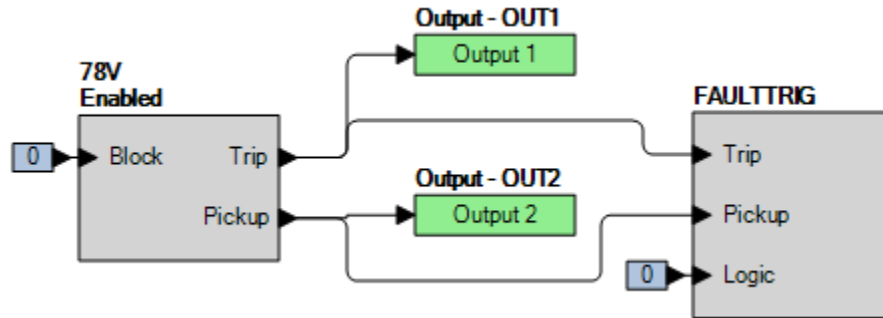

Figure 61-1. BESTlogic*Plus* Settings
Step 2: Use BESTCOMS*Plus* to configure the BESTlogic*Plus* programmable logic shown in Figure 61-1.
Step 4: Prepare to monitor the 78V function operation. Operation can be verified by monitoring OUT1 (see Figure 61-1).